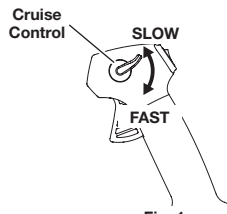

Fig. 1
- Once the engine has been started and warmed up, squeeze the trigger to accelerate the unit as needed (Fig. 1).
- For longer periods of operation and to eliminate possible finger fatigue, move the cruise control toward the **FAST** position to incrementally increase or maintain the unit's engine speed (Fig. 1). When the cruise control is pressed, the trigger will recede into the handle.
- To decrease engine speed, move the cruise control to the **SLOW** position and the trigger will return to the idle position (Fig. 1).